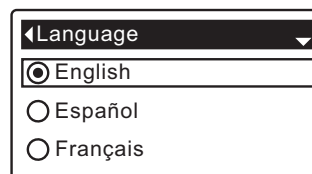

FIG. 50
5. Press the SELECT (O) button to display the Language menu (See Figure 50).
6. If the desired language already has a black dot next to it (See Figure 50), go to Step 7. Otherwise, press the DOWN (▼) or UP (▲) buttons to scroll to the desired language, then press SELECT (O) to choose it. The choices are: English, Spanish, French, Italian, German, Dutch, Polish, Russian, Hungarian, Turkish, Lithuanian, Greek, Romanian, Czech, Slovak, Bulgarian, Serbian or Croatian.